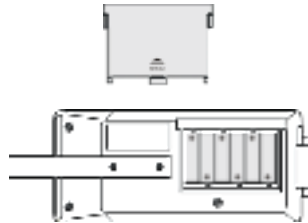

Figure 14
- a. Push out the battery cover in the direction of the "OPEN" arrow on the battery box. Then install 6 AA batteries according to the battery polarity mark on the battery box. (See Figure 14)